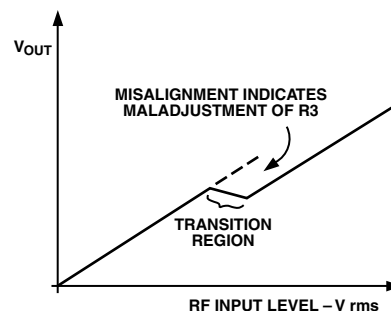

Figure 23. Intercept Adjustment
4. Finally (re)adjust R3 as required to remove any remaining misalignment in the transfer function (see Figure 23).